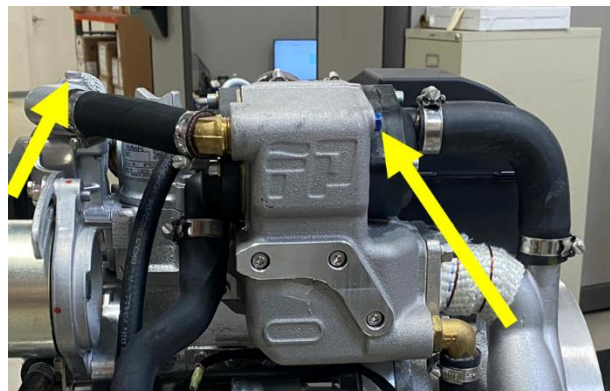

Figure 31: Coolant bleed screws
3. Open the bleed points (see Figure 31). Gravity will push coolant from the engine into the tank.